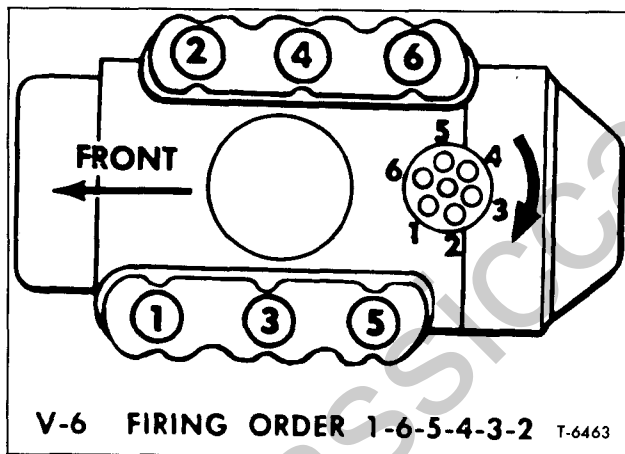

Figure 2—Cylinder Numbering and Spark Plug Wire Locations for V6 Engine
3. Inspect distributor cap for burned wire sockets, cracks, and for erosion at terminals inside cap. Replace the distributor cap if it is not in good condition. When installing spark plug wires, refer to figure 2 which shows cylinder numbering, firing order, and distributor cap wire socket numbering.